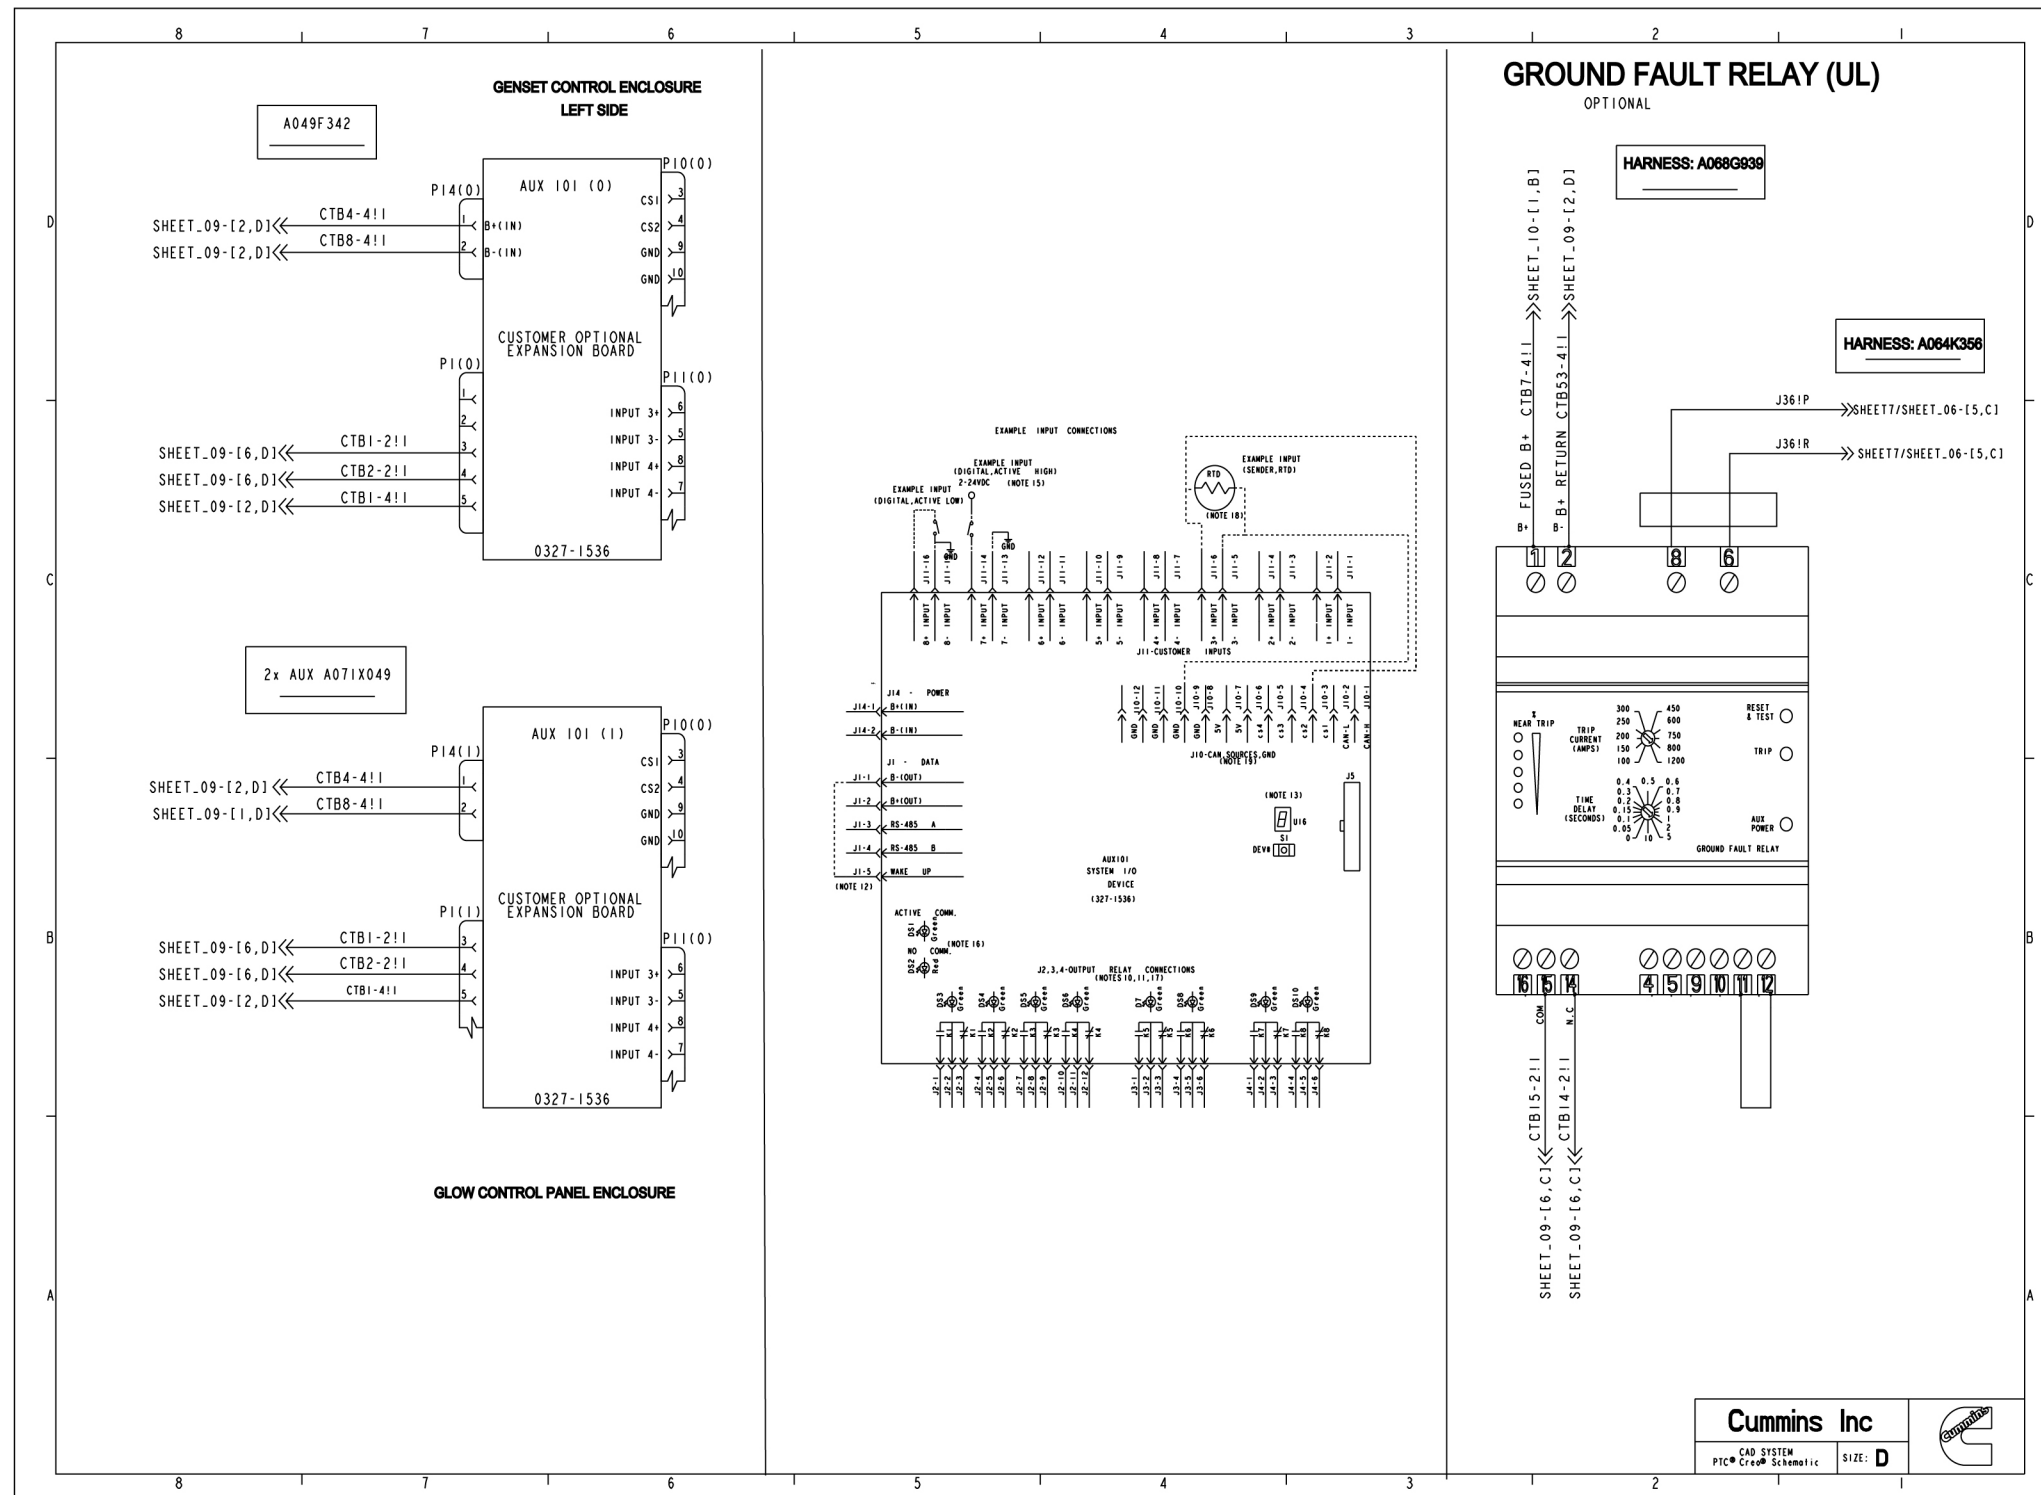

FIGURE 95. WIRING SCHEMATIC (SHEET 11)
- Figure 95. Wiring Schematic (Sheet 11) 399